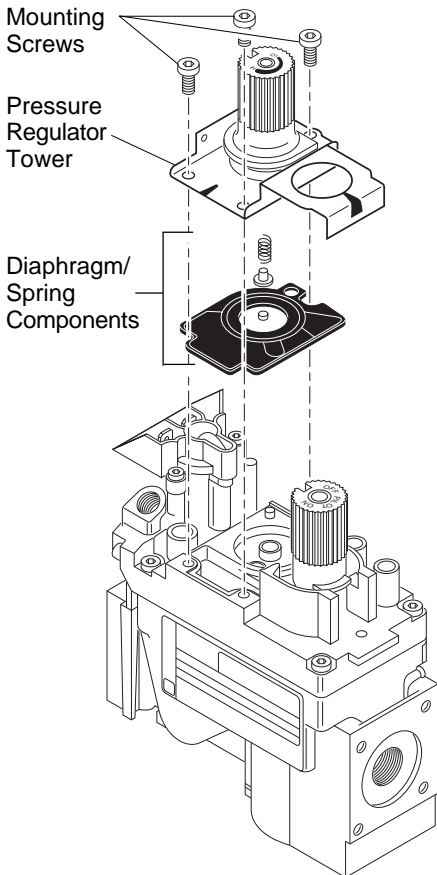

Figure 6 - Removing Mounting Screws, Pressure Regulator Tower, and Diaphragm/Spring Components
- Using a TORX T20 or slotted screwdriver, remove and discard the three mounting screws, pressure regulator tower, and diaphragm/spring components (see Figure 6).